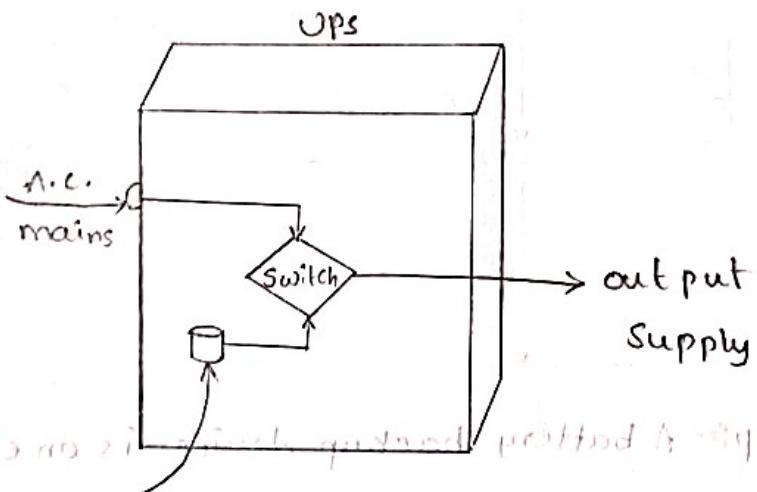

Fig. Q.26.1 Basic concept of UPS.
* The Fig. Q.26.1 shows a very basic block diagram of an UPS which is using two power sources, controlled by a switch.